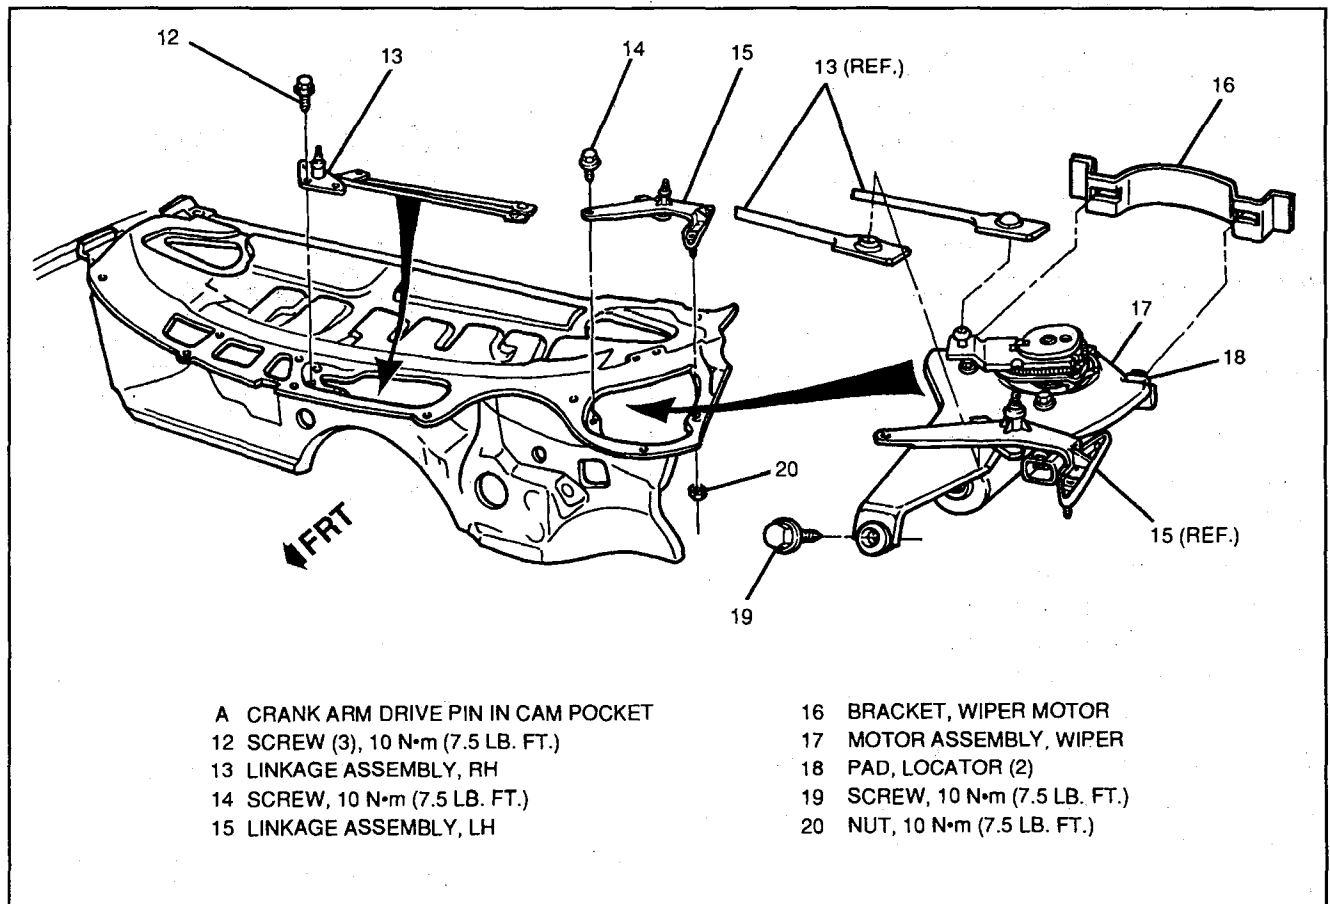
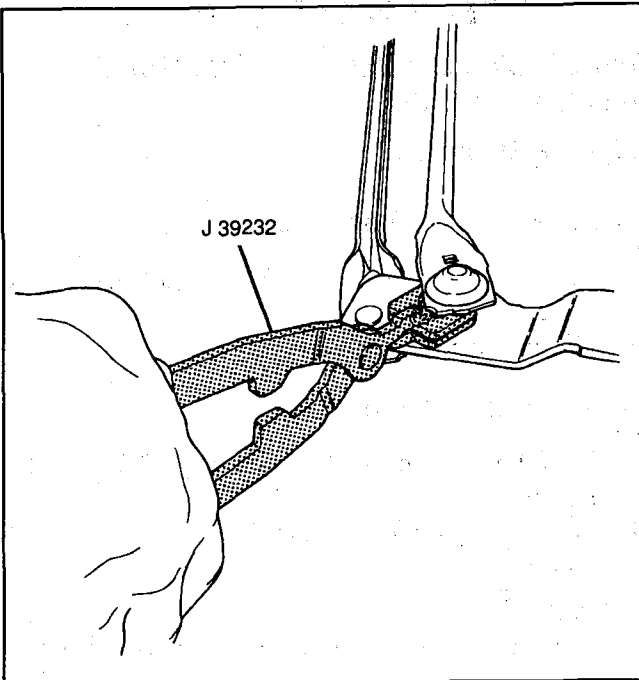
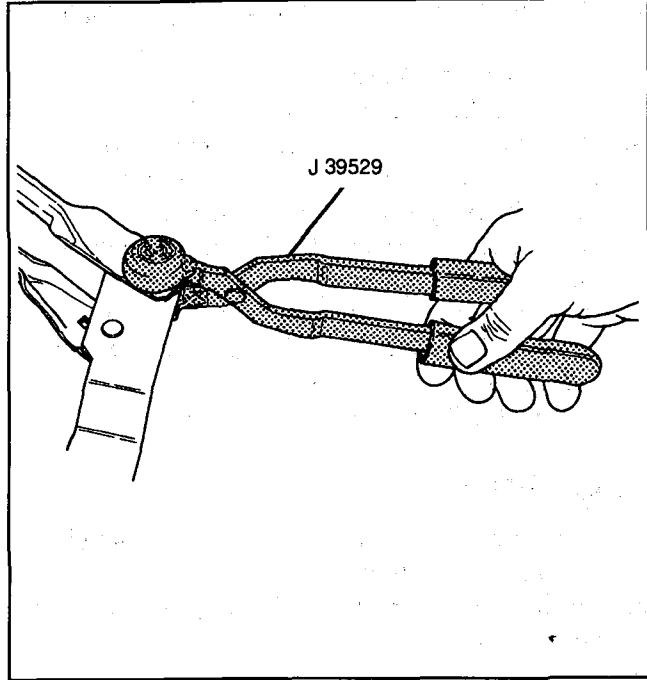

Figure 17 — Linkage and Wiper Motor Assemblies
Figure 18 — J 39232 Wiper Linkage Separator (Typical Usage)
Figure 19 — J 39529 Wiper Linkage Installer (Typical Usage)
5. Electrical connector from wiper motor assembly (17, Figure 17).
6. Screw (14) and nut (20).
7. Socket of RH linkage assembly (13) from ball of LH linkage assembly (15) using J 39232 (see Figure 18).
9. Screw (19, Figure 17).
10. Pull wiper motor assembly free from slots of bracket (16).
11. Socket of RH linkage assembly from crank arm ball of wiper motor assembly using J 39232 (see Figure 18).
- When installing wiper motor assembly, make certain that the crank arm is in inner wipe position as shown in Figure 17. The crank arm drive pin must be engaged in the cam pocket.
1. Press socket of RH linkage assembly (13) into engagement with crank arm ball of wiper motor assembly (17) using J 39529 (see Figure 19).
2. Wiper motor assembly (17, Figure 17) with two locator pads (18) pressed fully into slots of bracket (16).
3. Screw (19).
- Screw (19) to 10 N·m (7.5 lb. ft.).
4. LH linkage assembly (15) without attaching parts.
5. Press socket of RH linkage assembly into engagement with ball of LH linkage assembly using J 39529 (see Figure 19).
6. Attach LH linkage assembly with screw (14, Figure 17) and nut (20).
4. Screw (14, Figure 17) and nut (20).
5. Socket of RH linkage assembly (13) from ball of LH linkage assembly (15) using J 39232 (see Figure 18).
7. Three screws (12, Figure 17).
8. Socket of RH linkage assembly from crank arm ball of wiper motor assembly (17) using J 39232 (see Figure 18).
1. RH linkage assembly (13, Figure 17) through slotted plenum access hole.
2. Three screws (12) finger tight.
4. Press socket of RH linkage assembly into engagement with crank arm ball of wiper motor assembly (17) using J 39529 (see Figure 19).
5. LH linkage assembly (15, Figure 17) without attaching parts.
6. Press socket of RH linkage assembly into engagement with ball of LH linkage assembly using J 39529 (see Figure 19).
7. Screw (14, Figure 17) and nut (20).